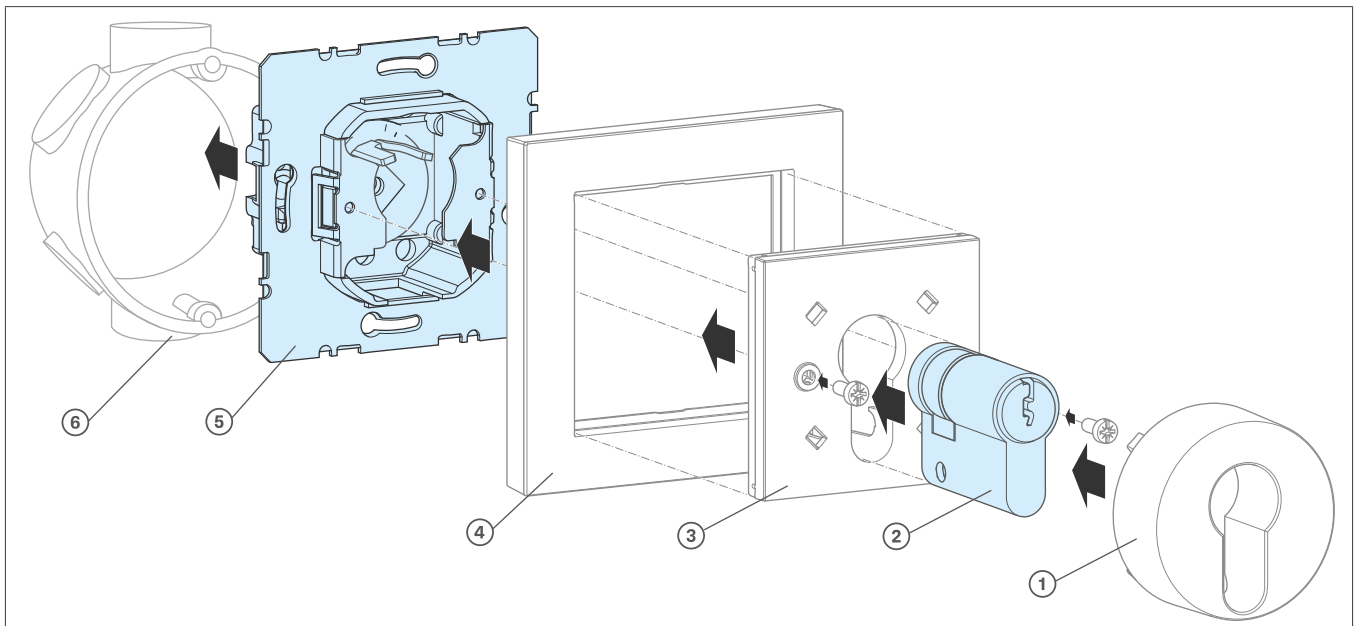
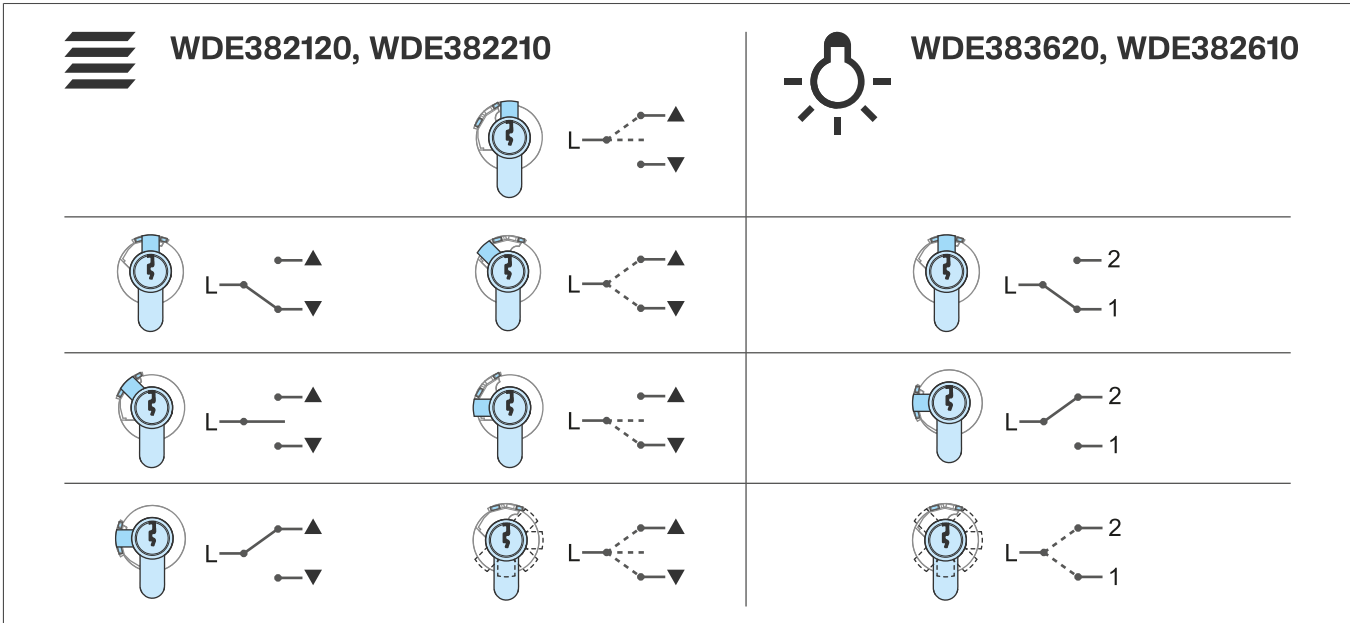

Fig. 1: Design and layout of the device
Fig. 4: Switch positions of key switches/key push buttons with removable key
The switching positions in which the key can be removed depend on the position of the lock bit on the profile half cylinder used. If the lock bit is guided in the fork, it can only be removed in one switch position (Fig. 4).
- ① Connect switch/push-button insert (5) according to the labelling on the rear.
- ② Position switch/push-button insert in the wall box (6) and screw in place. Note **TOP/OBEN** marking (Fig. 1).
- ③ Fit the cover frame (4) on the switch/push-button insert.
- ④ Use the key to move the lock bit into position. Insert the centre piece with the prepared profile half cylinder and screw it in place.
- Switching performance of key switches/key push buttons with a removable key depends on the setting of the lock bit (Fig. 4).
- ⑤ Remove the key.
- ⑥ Snap on the cover (1) for the profile half cylinder.